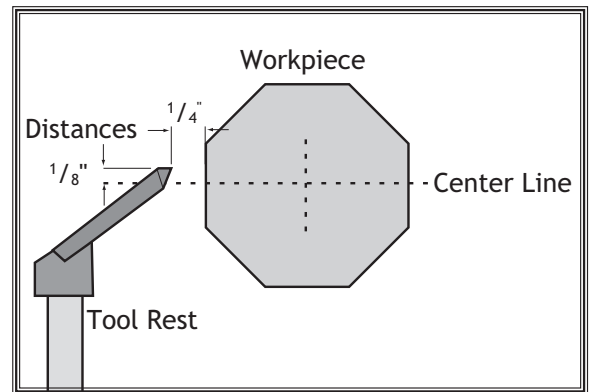

Figure 20. Tool rest position relative to workpiece.
2. Position tool rest approximately $\frac{1}{4}$ " away from workpiece and approximately $\frac{1}{8}$ " above workpiece center line, as shown in **Figure 20**.